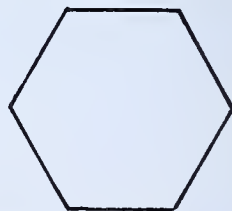

FIG. 250 — *Regular Hexagon*
**REGULAR HEXAGON** — Fig. 250. A six-sided figure with equal sides and equal angles.